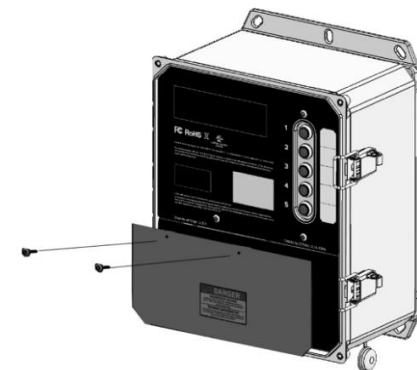

Figure 1
4. Using six (6) 0.25" (6mm) diameter screws that can fit the 0.310" (8mm) diameter mounting holes and capable of supporting 50 lbs. (23kg) of weight, screw the CBS to the wall.
5. Remove the two screws and lower cover to access the bottom wiring compartment. (Figure 1). A flathead screwdriver may be used to help lift and remove the cover.
8. If you are not using an outdoor antenna kit, place the lower cover back into position and tighten the two screws. (Figure 1)
5. Place the lower cover back into position and tighten the two screws. (Figure 1)